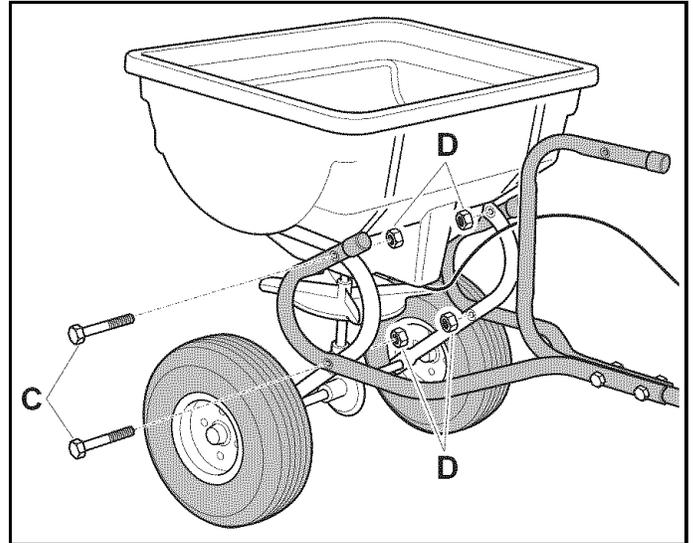

FIGURE 7
- Attach the (RH) and (LH) hitch tubes to the frame tube using four 1/4" x 2" hexbolts (C) and 1/4" nylock nuts (D). **Tighten.** See figure 7.